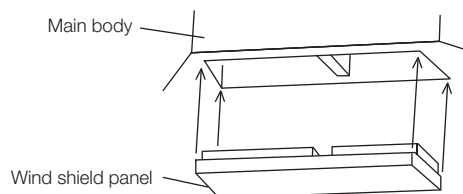
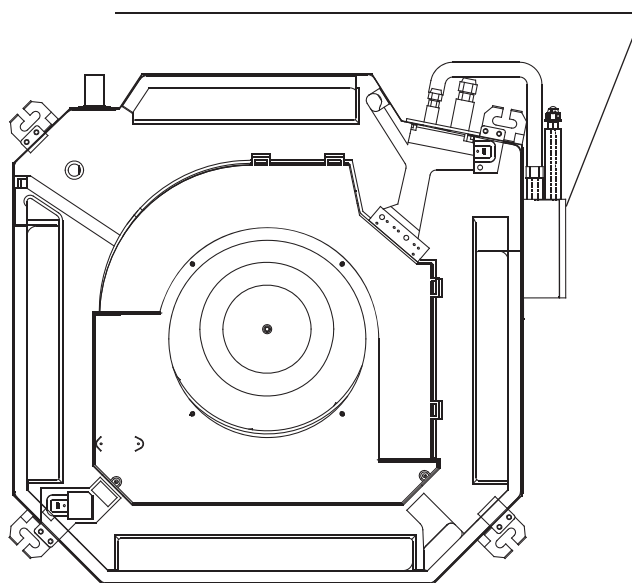

Fig. 4-4
Fig. 4-6
(refer to Fig. 4-4, Fig. 4-6 and Fig. 4-7)
- Before install the indoor unit, please remove the buffer between in fan and flared mouth firstly. Otherwise, running operation would damage the fan motor (See Fig. 4-6).